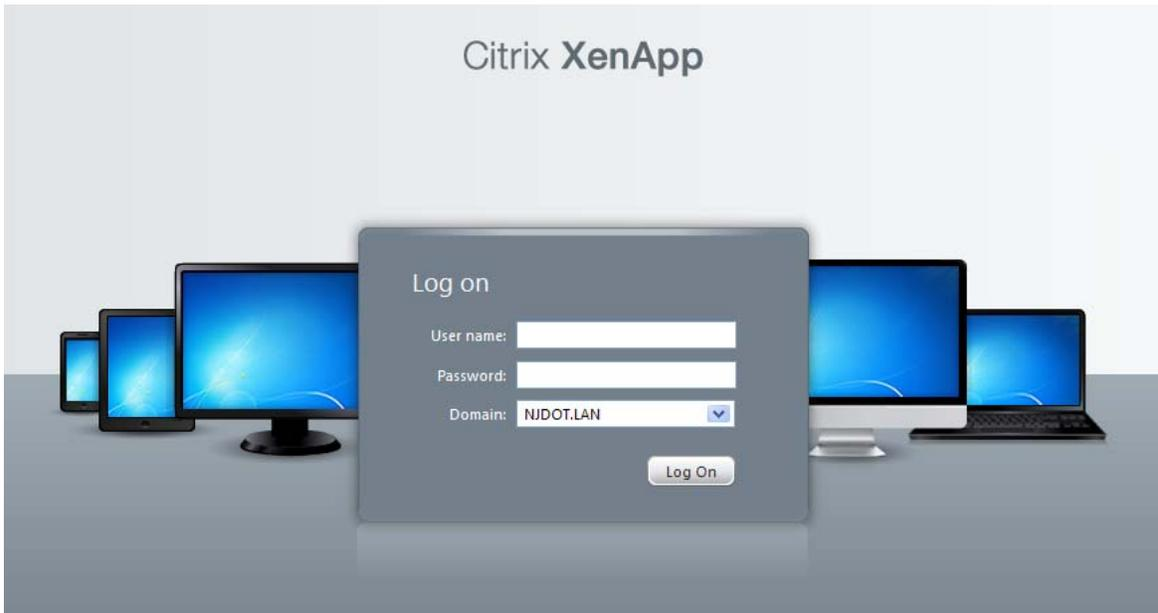

Figure 2-1. Citrix Login Window
3. The Citrix login window will open as shown in Figure 2-1. Enter the username and password that was provided for you by NJDOT. The domain is "NJDOT.LAN." Note: The username field is not case-sensitive but the password field is.